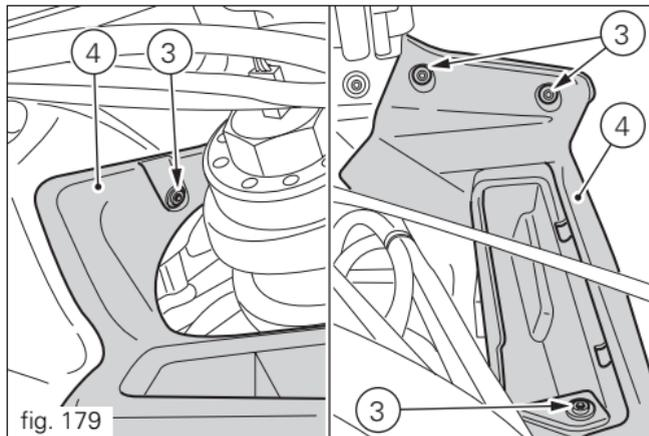

fig. 179
Unscrew the four screws (3, fig. 179) that fasten the panel (4) to headlight fairing.